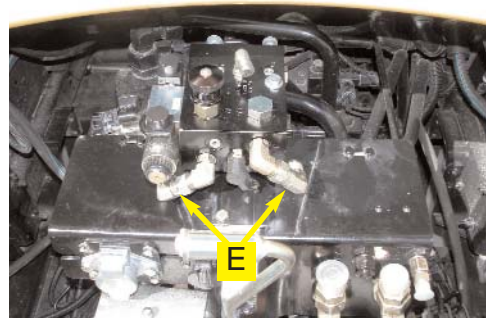

Figure 4a. Installed elbow adapter fittings.
- a. Install the provided elbow adapter (**E**) to the **P** and **T** ports on the Automated Steering Block. (Figure 4a.)